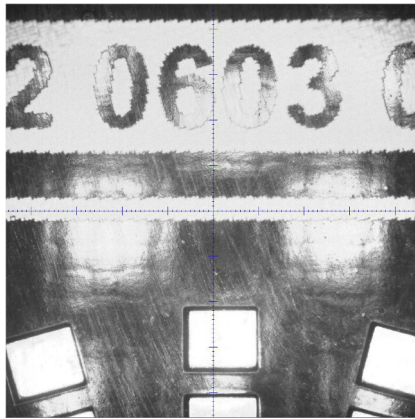

Fig.2
- ① Adjust the position of the board in rail via clicking items"Rail forward" and "Rail backward".
- ② Click "Align" enter into below interface(See fig.2),then adjust the position of camera until to the limited place (See fig.3).Click "Save" item to save the setting.return to the main page